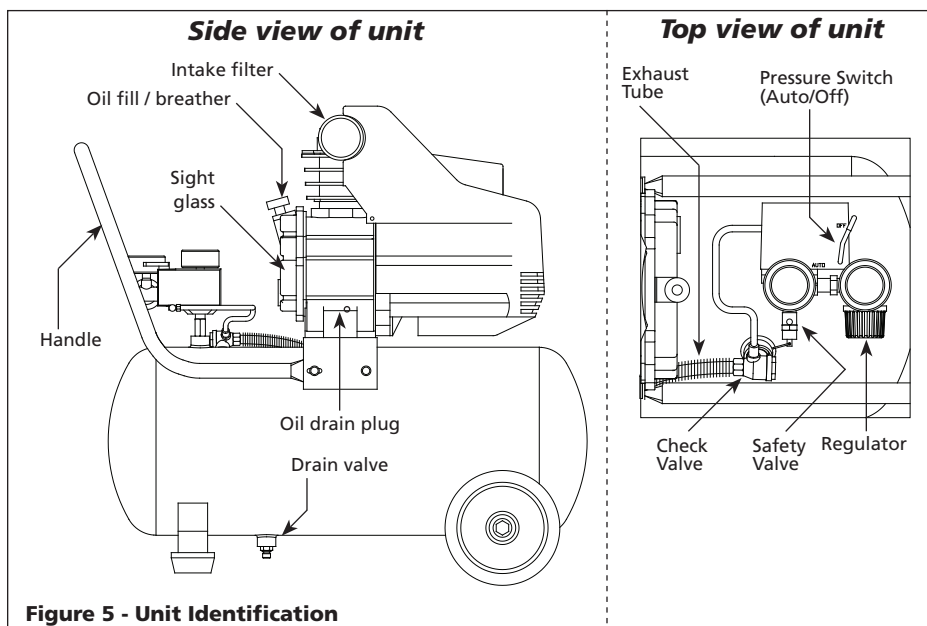

Figure 5 - Unit Identification
2. Wearing safety glasses, pull the ring on the safety valve (see Figures 5 and 7) to release pressure from compressor tank. Use your other hand to deflect fast-moving air from being directed toward your face.
- Turn compressor off and release pressure from system. To release pressure from system, pull ring on ASME safety valve (see Figures 5 and 7). Deflect escaping air by shielding valve with one hand as you pull ring with other hand. Pull ring until tank is empty.
- Drain moisture from tank by opening drain valve (see Figure 5) underneath tank. Tilt tank to remove all moisture.
- Remove oil drain plug (see Figure 5). Allow oil to collect in pan. Tilt unit to completely drain.